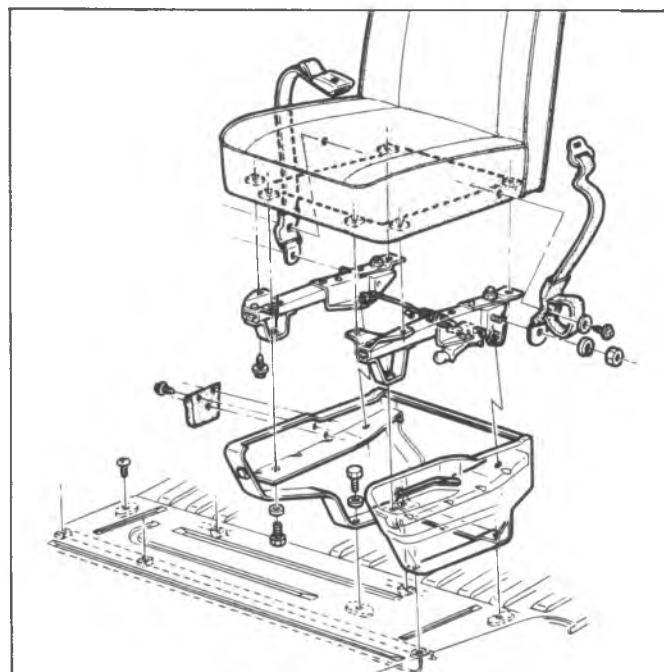

Fig. 38G—Driver's Seat
3. Remove adjuster from seat. See figure 38G.